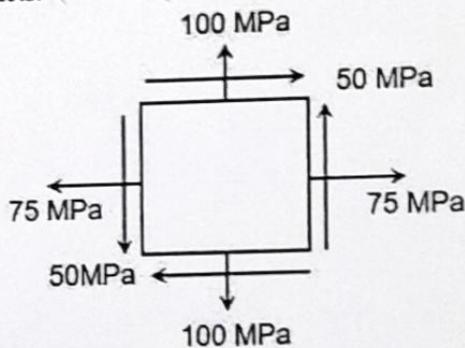

Figure 4
- Q5 a) A plane element is subjected to stress as shown in figure 4. Determine the principal stresses with their directions and the maximum shear stress with the planes on which it acts. 05M